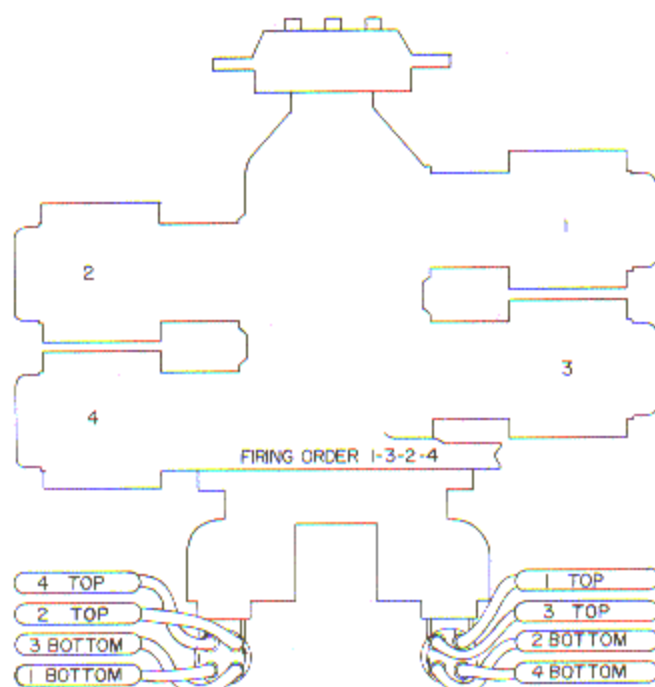

Figure 4-2. Ignition Wiring Diagram, O-360
4-26. Refer to the ignition wiring diagram (figure 4-2 or 4-3) and arrange the cables in the proper sequence. Install a contour washer (9, figure 4-1) over the end of each cable; then slide the magneto ends of the six cables into the holes in the ignition outlet plate (10, figure 4-1), making sure that the number one cable enters the marked hole in the plate and that the remaining cables follow in their proper order. Slide the 6-wire (or 4-wire) grommet (11, figure 4-1) onto the cable ends protruding from the outlet plate. Insert the bared ends of the cable strands through the hole in the center of the slotted contact washer, (12, figure 4-1). Divide the strands and bend them over the face, through the slots and under the rim of the washer.
4-29. INSTALLATION OF AUTOLITE OR PACKARD HARNESES. (See figure 4-1.) Secure each harness to its respective magneto by screwing the outlet plate (10) to the plate mounting flange on the magneto. Install cable clips at sides and on rear of accessory housing to secure bottom ignition leads to engine. (See installation drawings at end of Section IX for location of clips.) Attach each bottom lead to its adjacent intake pipe with an offset clamp and screw the elbow into the spark plug. All upper leads run directly from the magnetos to the plugs without intermediate clamps. Refer to the ignition wiring diagrams (figures 4-2 and 4-3) for correct terminal connections when installing all leads.
4-31. Refer to the ignition wiring diagram (figure 4-2) and arrange the lead assemblies in the proper sequence. Insert the magneto ends of the lead assemblies into the outlet plate making sure that the No. 1 cable enters the marked hole in the plate and that the remaining cables follow in the proper order. Slide the terminal block onto the cable ends protruding from the outlet plate. Insert the bared ends of the cable strands of each lead through the hole in the center of a slotted cable fastening washer. Divide the strands into two groups of three and four, and bend them over the face, through the slots and under the rim of the washer. Complete the assembly of the magneto end of the harness by screwing the bushing nuts into the outlet plate using the magneto bushing wrench (3, figure 11-2).
4-33. INSTALLATION OF BREEZE AND CO-OP HARNESS (O-360 ONLY). Secure each harness to its respective magneto by screwing the outlet plate to the plate mounting flange on the magneto. Install cable clips at sides and on rear of accessory housing to secure bottom ignition leads to engine. (See installation drawings at end of Section IX for location of clips.) Attach each bottom lead to its adjacent intake pipe with an offset clamp and screw the elbow into the spark plug. All upper leads run directly from the magnetos to the plugs without intermediate clips. Refer to ignition wiring diagram (figure 4-2) for correct terminal connections when installing all leads.